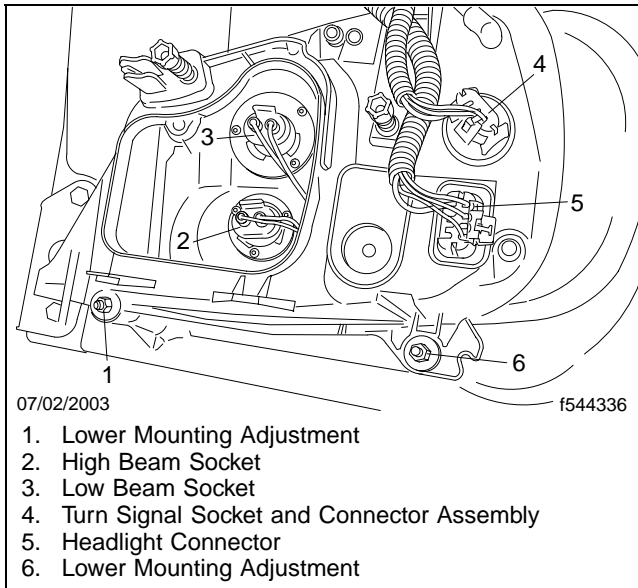

Fig. 2, Headlight Bucket (Rear View)
3. Unplug the headlight connector. See **Fig. 2**.